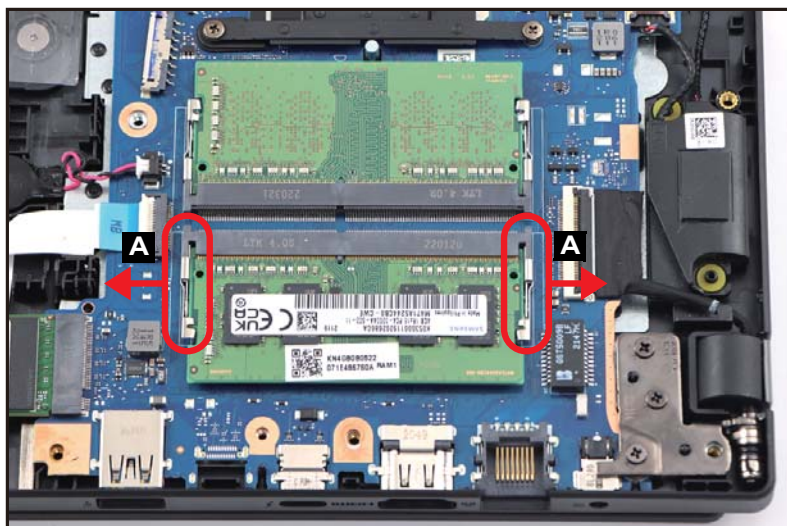

Figure 1-17. DIMM Modules Removal
1. Push the DIMM module clips (A) outwards (Figure 1-17).